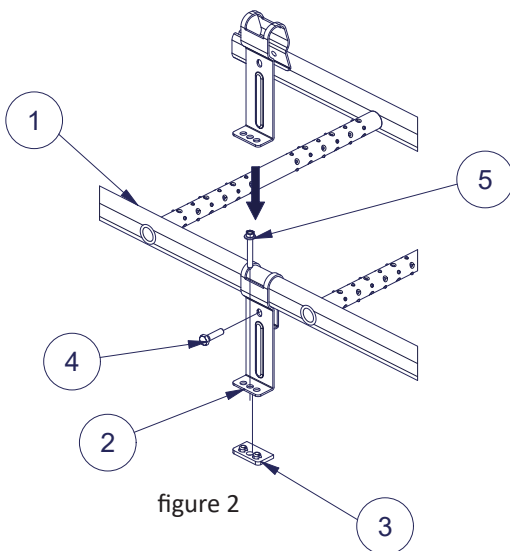

figure 2
- Attach the roof ladder fasteners with M8x30 hexagon bolt to the ladder frame (figure 2).